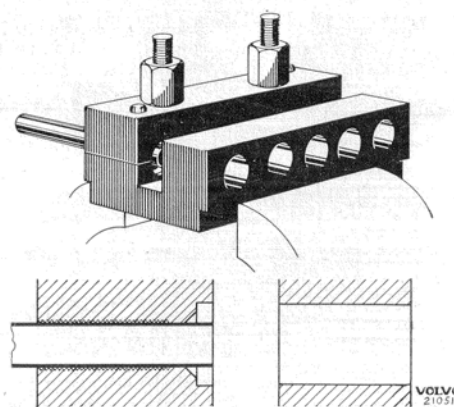

Fig. 26. Flanging brake pipe.
3. If the pipe is of copper, this is flanged in the usual way. If it is a steel pipe, it should be double-flanged which is done with tool SVO 2049. Place the tool in a vice, insert the pipe far enough so that its end comes flush with the jaw as shown in Fig. 26. Tighten the nuts.